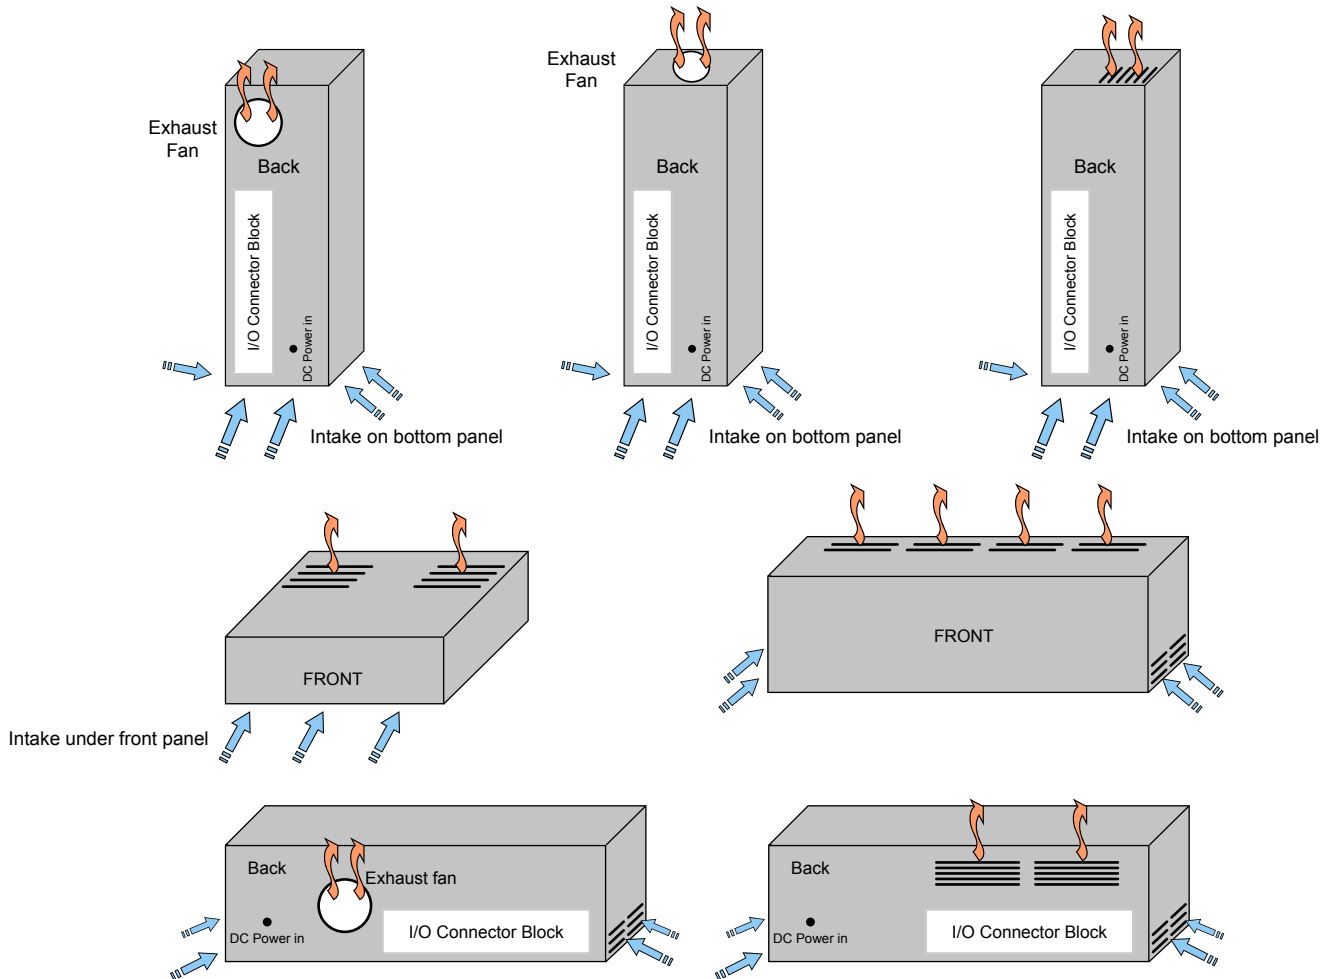

Figure 4 – Suggested placement of ventilation cutouts and enclosure exhaust fans. (Example uses ITX enclosure)
Consider the orientation of fans, and align intake and exhaust outlets to take advantage of the current that they create. It is best to arrange the intake and exhaust cutouts so that air will flow across the top of the board on its way through your enclosure. See Figure 4 for some examples of ventilation cutout placements. To maximize the effect of ventilation airflow, make sure that the only openings in your enclosure are the ventilation cutouts or openings that will be filled by switches, connectors, or panel display features. Extraneous holes in the enclosure panels can cause disruption of natural convection currents, resulting in less effective cooling of the processors. And if in doubt, use a fan or fans to move air in and out of your enclosure. The required volume of cooling air can be calculated as  $\text{Volume (CFM)} = 3.16 \times \text{Max Heat (watts)} / \Delta T \text{ (F)}$ , where Max Heat is the maximum sustained power dissipation of boards and components inside the enclosure, and  $\Delta T$  is the maximum allowable temperature rise.